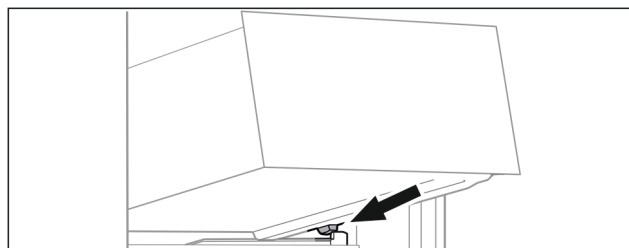

Fig. 96
- Place drawer at an angle behind the stoppers on the moulded rib. (see Fig. 96)